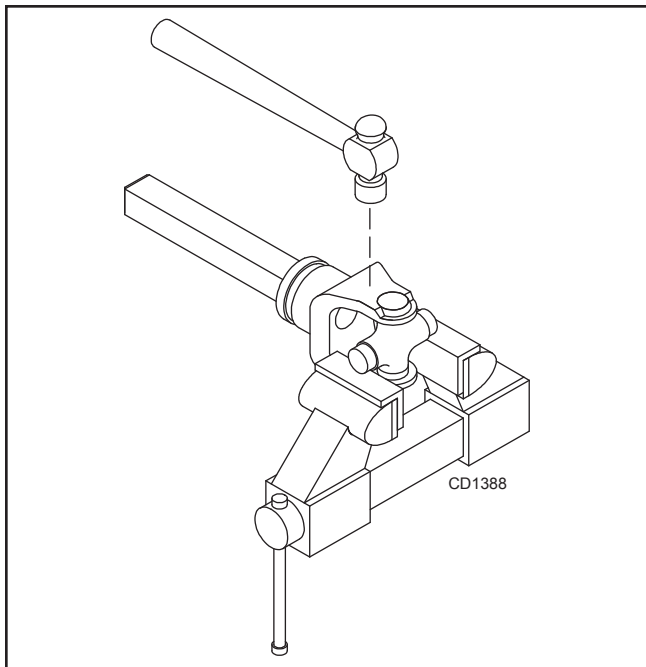

Figure 25. Remove Cups
4. Place universal cross in vise as shown in Figure 25 and tap on yoke to remove cup. Repeat Step 3 for final removal. Drive remaining cup out with a drift and hammer.